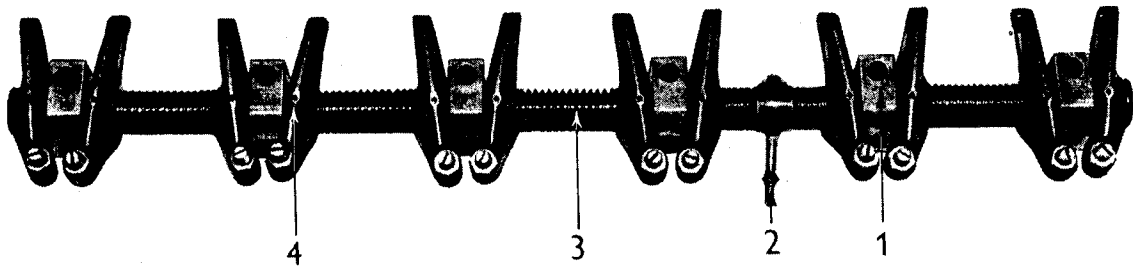

Fig. E.12. Rocker Shaft Assembly.
### Rocker Shaft Assembly (Fig. E.12)
2. Refit the support brackets, springs and rocker levers in the correct order (Fig. E.12).